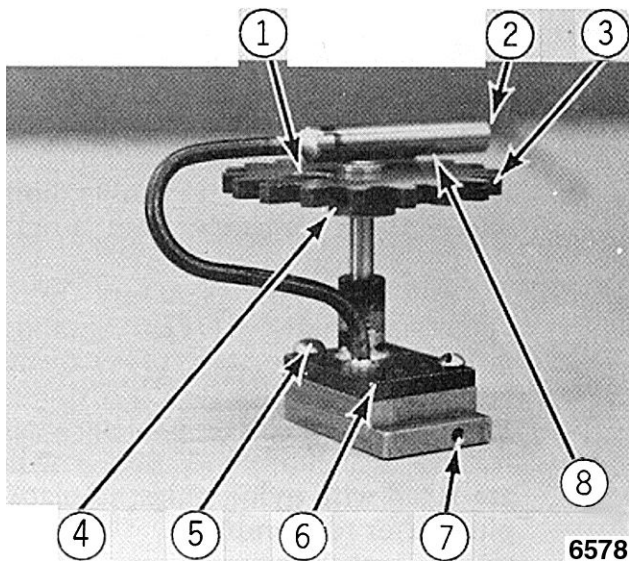

Fig. 32
NOTE: Check the oil pump inlet [7] and outlet [2] Fig. 32 holes to verify they are not clogged. If there is any oil in the planetary cavity, a small amount of it should flow from the outlet tube when the fiber conveying gear [3] Fig. 32 is turned by hand. A little oil should also come out of the small hole [8] Fig. 32 and drip on the conveying gear.
1. Remove oil pump assembly from planetary. For accessing the mounting screws, align the thru hole in conveying gear with screw to be removed [1] Fig. 32.
- A. Remove two mounting screws (only one location shown) [6] Fig. 32.
- Remove two screws [5] Fig. 32 that hold the top, body, and bottom plates together to gain access to pump gears.